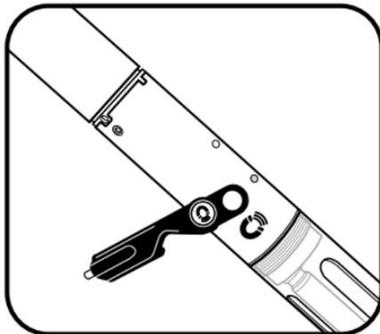

Figure 47. Activate the Multisonde's Bluetooth capability [Source: [ER \[02\]](#)]
**STEP 1** | Activate the Multisonde’s Bluetooth. Use a magnet or Multisonde tool in the area shown in **Figure 46** and **Figure 47**. This is the best way to access the sensor while it is connected to an external power source.